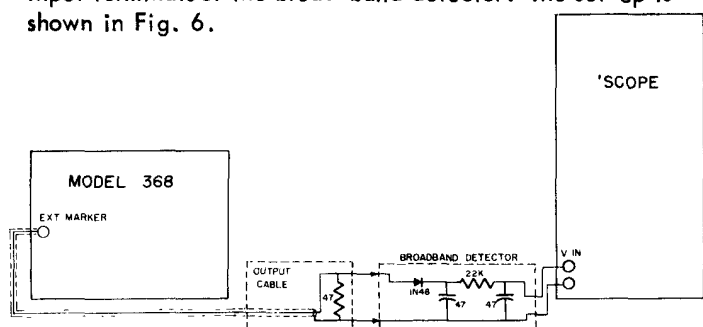

Fig. 6
3) Wire the broad-band detector circuit shown below to the V input terminals of your scope, using the shortest possible leads between the components and the scope terminals. Connect the other end of the Output cable to the input terminals of the broad-band detector. The set-up is shown in Fig. 6.